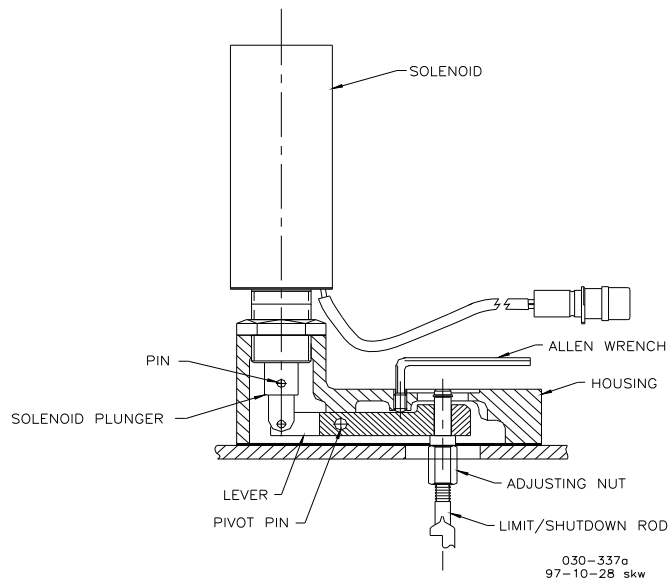

Figure 3-3. Shutdown Plunger Adjustment (ETS)
Is the shutdown lever (8) adjusted correctly?	Readjust the shutdown lever. Refer to Assembly Procedure and Figure 3-3.
Is the shutdown lever (8) adjusted to allow enough stroke to cause shutdown?	Adjust the lever adjustment screw (3). Refer to Figure 3-3.
Is the shutdown lever (8) adjusted correctly to allow enough stroke to release the shutdown linkage?	Readjust the shutdown lever. Refer to Assembly Procedure and Figure 3-3.
Refer to Figures 3-3 and 4-1, and do the following for the energize to shutdown version: